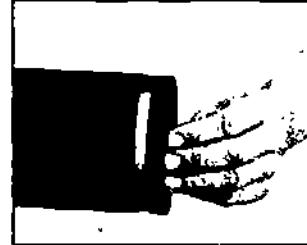

Figure 13-3. Checking Pipe Ends
g) Assembly of couplings — styles 22, 31, 41, 44, 71, 75, 77 — is shown step-by-step in Figures 13-3 to 13-8.
Step 1 The pipe must be free from indentations, projections, or roll marks on the exterior from the end to the groove (Figure 13-3) to ensure a leak-tight seat for the gasket.